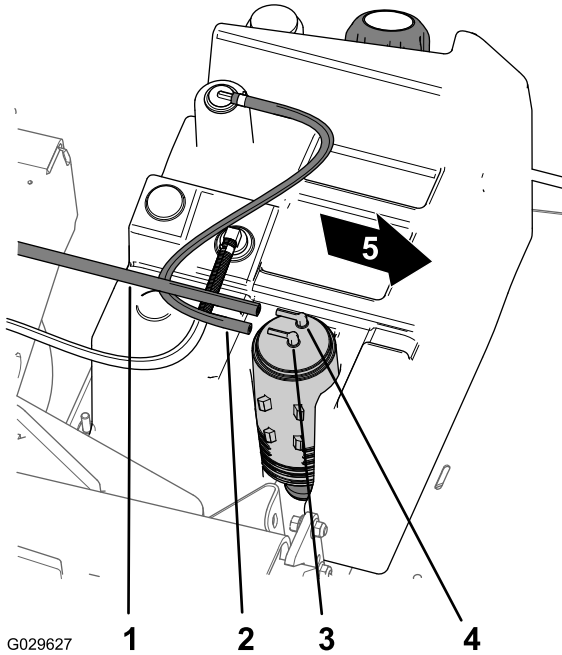

Figure 45
1. Remove the vacuum hose from the fitting on the carbon canister marked Purge (Figure 45).
2. Remove the fuel-tank hose from the fitting on the carbon canister marked Fuel Tank (Figure 45).
8. Assemble the vacuum hose onto the fitting on the carbon canister marked Purge and the fuel-tank hose to the onto the fitting marked Fuel Tank (Figure 45).